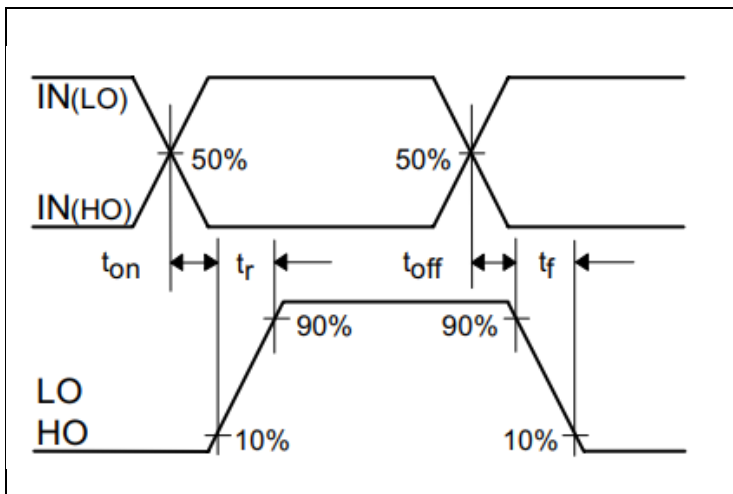

Figure 6 Switching timing diagram
The relationships between the input and output signals of the 2ED2184 (4) S06F (J) are illustrated below in Figure 6 and Figure 7. From these figures, we can see the definitions of several timing parameters (i.e.  $t_{ON}$ ,  $t_{OFF}$ ,  $t_R$ , and  $t_F$ ) associated with this device.